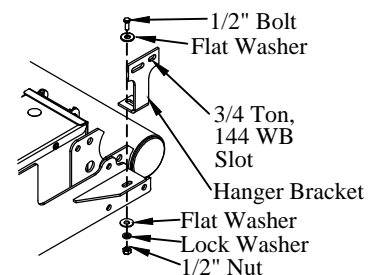

Figure 8: Bracket location.
- 1. Install** the hanger brackets loosely in their widest position (Figure 8). These brackets may need to be rotated or swapped depending on van frame.